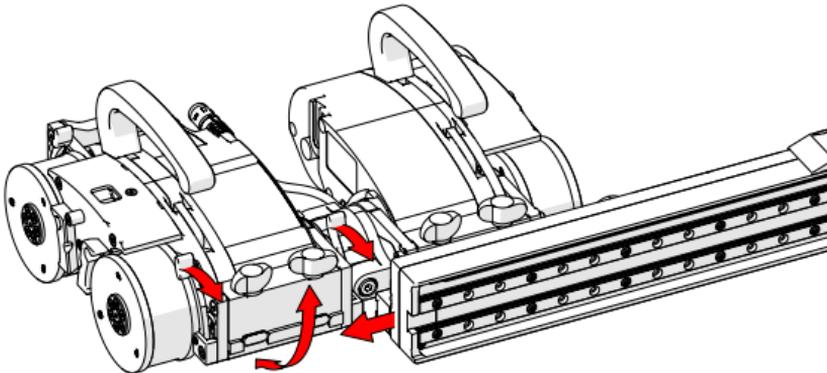

Fig. 32 - Slide onto second swivel mount
2. Release the swivel mount levers and pivot the swivel mount to align with the mounting rail of the raster arm (Fig. 32). Slide the raster arm onto the remaining module's swivel mount and tighten all four black wing knobs.